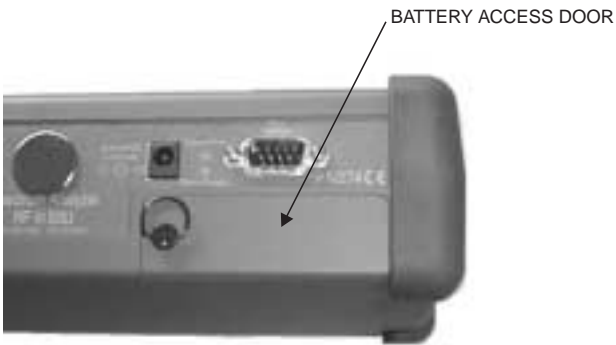

Figure 9. Battery Access Door Location
1. With the Site Master standing upright on a stable surface, locate the battery access door (Figure 9).